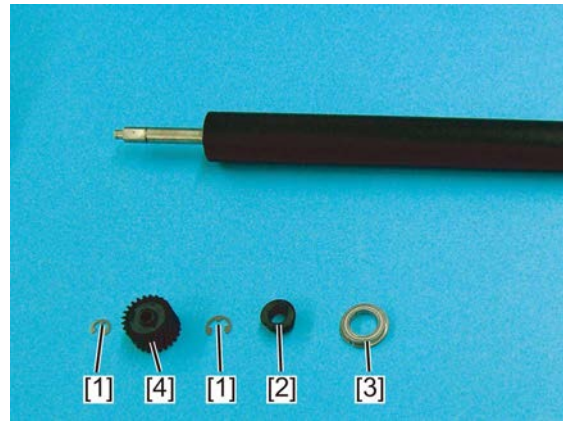

Fig. 4-465
- (5) Remove the 3 E-rings [1], 2 bushings [2], 2 bearings [3] and 1 gear [4].
- The bushing [2] for 45/50 ppm models in the  P. 4-167 "Fig. 4-465 " has a slit.